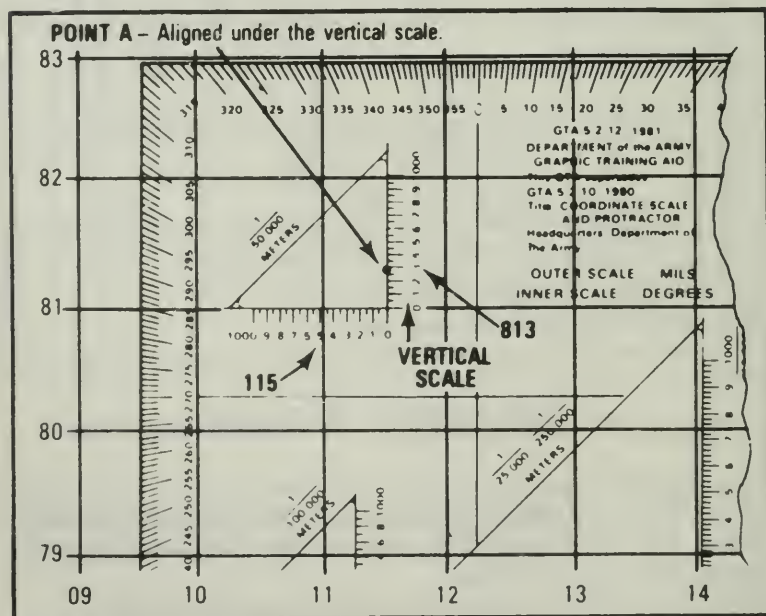

Figure 31. Aligning the coordinate scale.
f. Slide the scale to the right, keeping the bottom of the scale on the bottom grid line until Point A is under the vertical (right-hand) scale (Figures 31 and 32).